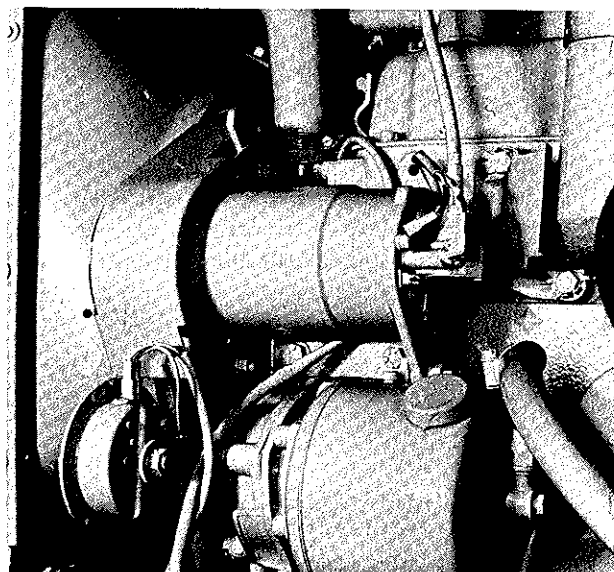

Fig. 2
7. Dynamo. Remove. Loosen the dynamo support bracket and remove the fan belt from the dynamo pulley. Identify and remove the electrical leads. Remove the fixing bolts and remove the dynamo (fig. 2).
Fan belt adjustment is shown in fig. 2.